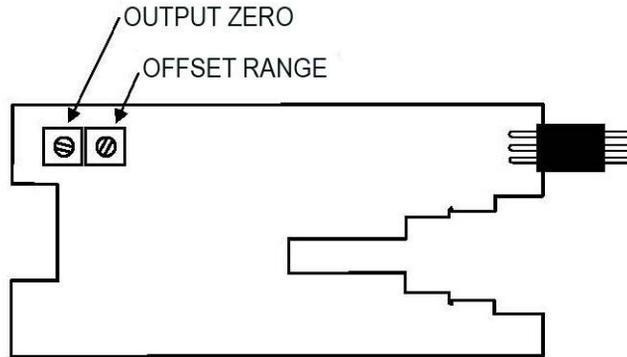

Figure 8 Adjustment Locations S/N 1000 and higher
6. Adjust OUTPUT ZERO on the board until the DMM reads $0\text{ V} \pm 100\ \mu\text{V}$. Refer to Figure 8 Adjustment Locations S/N 1000 and higher for adjustment location.